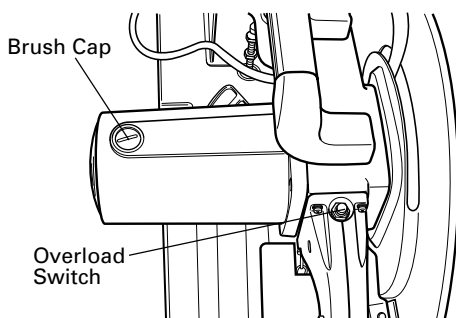

Fig. 16
7. Overload protective device for motor (Fig. 16)